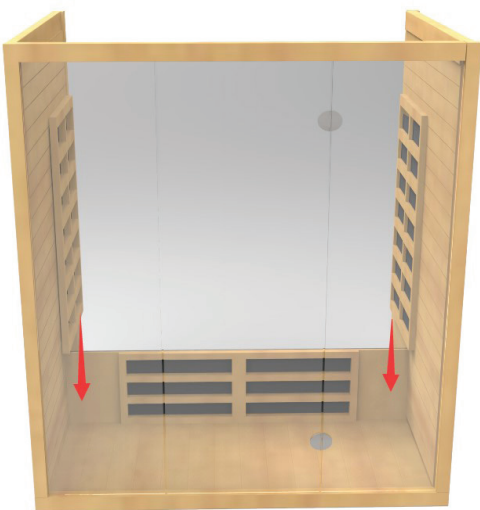

Fig. 5
5. Slide down the bench heater panel by lining up its sides with the vertical guides on both sides. Push the bench heater panel all the way down until it is touching the bottom panel. The bench heater should be facing toward the front of the sauna (Fig. 5).